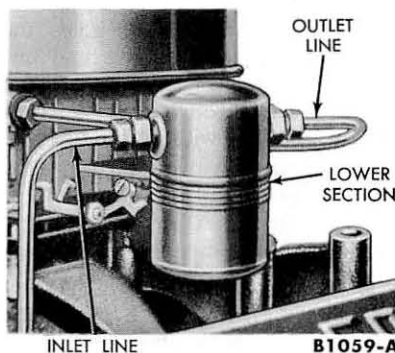

FIG. 7—292 and 302 HD V-8 Fuel Line Filter Installation
8. Replace Fuel System Filter Element—HD V-8 Engines. On a 292 or 302 HD V-8, unscrew the lower section of the filter, and remove it, the filter element, and the gasket (Fig. 7). Discard the filter element. Clean the lower section in solvent. Place a new filter element in